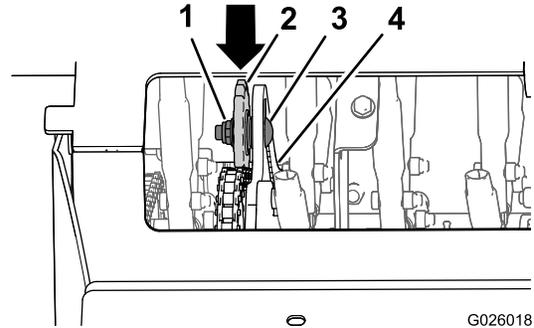

Figure 63
4. Loosen the lock nut and carriage bolt that secure the idler sprocket (Figure 63).
- Push down and forward on the sprocket to increase the chain tension as shown in Figure 63.